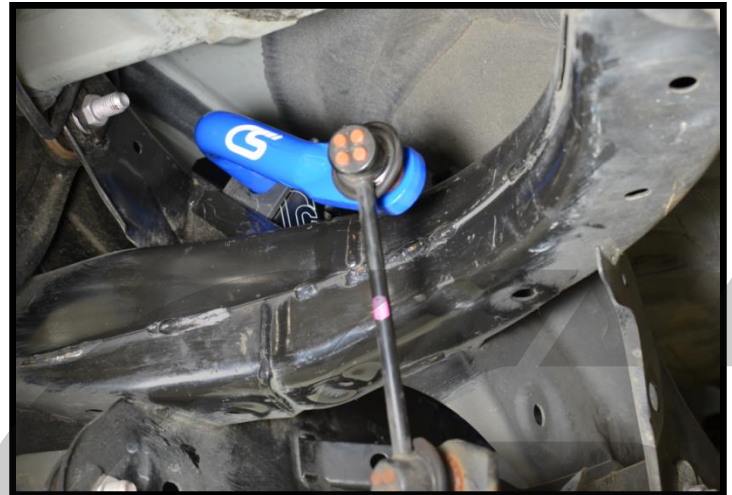

Figure 3g
i) Reinstall the endlinks (as shown in **Figure 3g**). Tighten to 34-40ft-lbs.